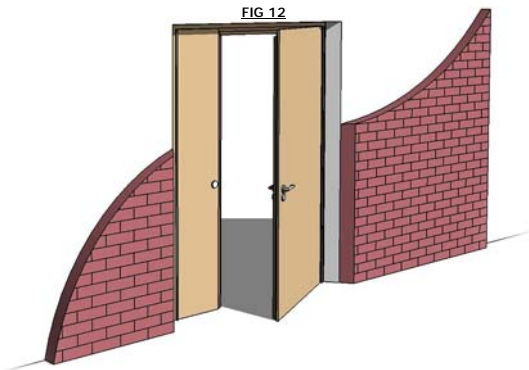

FIG 12
These parameters also can be used on a joined wall Please refer to page 13 of 15 Fig 12 and notes
*VOID INTERIOR OFFSET* or *VOID EXTERIOR OFFSET* to the thickness of the additional new wall added, the result will be a cut out of the new wall as shown in Fig 12